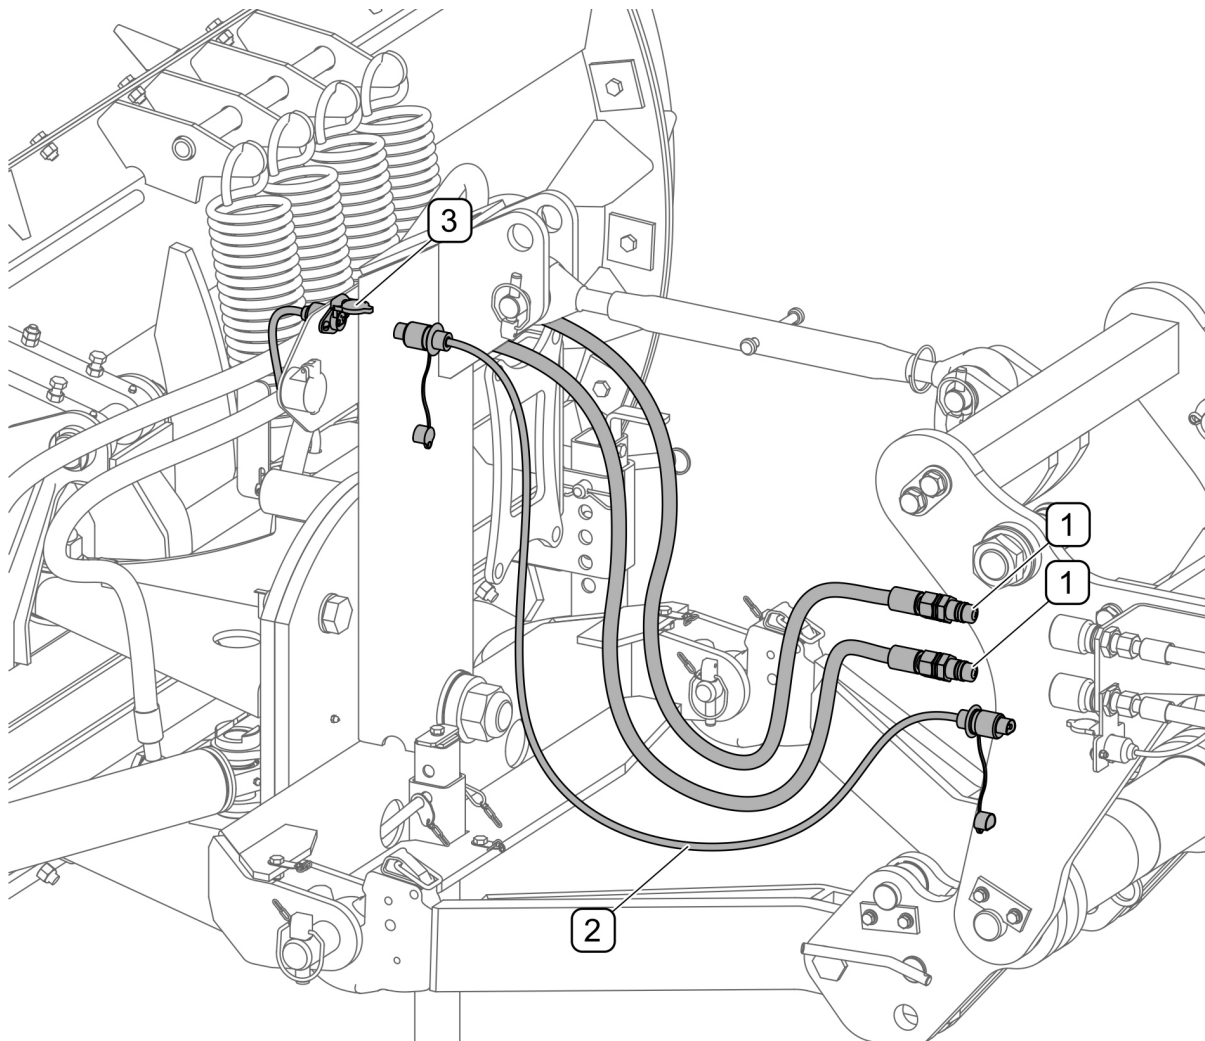

FIGURE 4.5 Connecting hydraulic and electrical system to tractor
Connect plough control hydraulic conduit connectors (1) to the tractor single section external hydraulic outlets (FIGURE 4.5). Clearance lamps socket (3) must be connected with a cable (2) to 3 pin socket on the tractor. Arrange electrical wires so as to prevent their damage during operation.